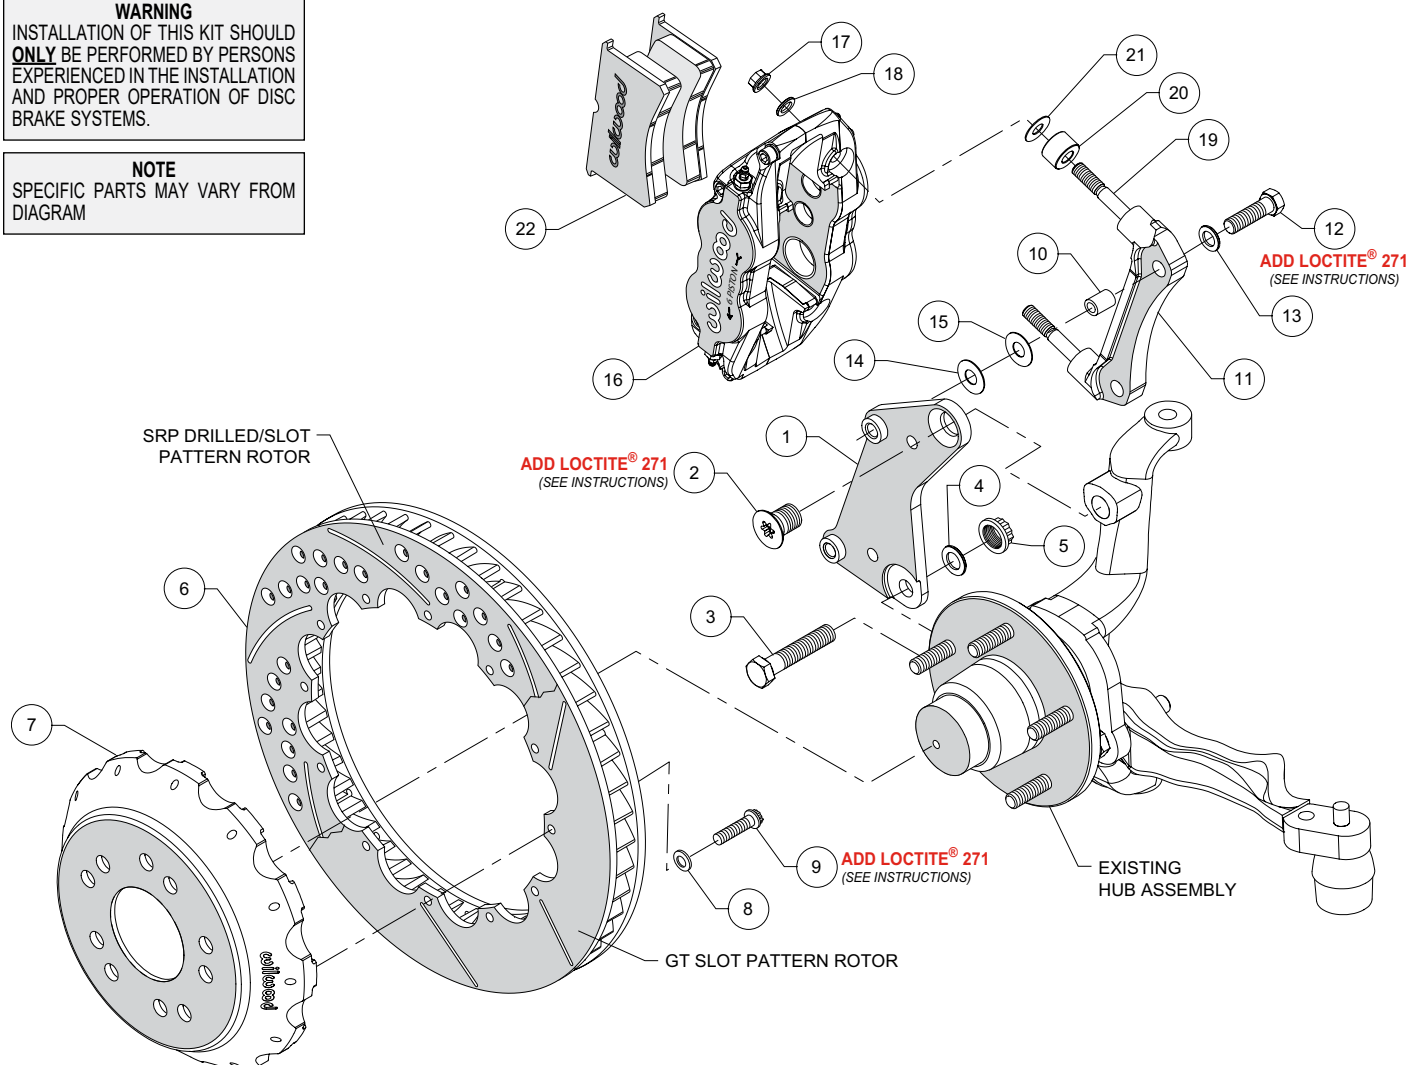

Figure 1. Typical Installation Configuration
- The radial mount caliper bracket assembly (11) should be installed first with clean, dry threads on the mounting bolts. Slide bolt sleeve (10) into the mounting holes of bracket (11). Install the bracket on the back side of the spindle/flat caliper mounting bracket (1) by sliding bolt (12) through washer (13), and through sleeve (10.) Initially place three shim washers (14) between the two brackets (1 and 11) (see Figure 1). The bracket must tighten squarely against the side of the spindle/caliper bracket. Inspect for interference from casting irregularities, machining ridges, burrs, etc. Later, after the caliper, pad, and rotor alignment has been checked, and any necessary shims have been put in place, the mount bolts should be coated with red *Loctite*® 271 and torqued to 47 ft-lbs.
- NOTE:** This kit contains distinct right and left hand calipers that must be mounted in a specific direction, as described below. Initially place .035" thick shim (21) and one spacer (20) on each stud (19) as shown in Figure 1. Mount the caliper (16) onto the radial mount bracket (11) using lock nuts (17) and washers (18), Figure 1. Ensure that the caliper is mounted so that the largest pistons are at the rotor exit end of the caliper, in relation to the direction of rotor rotation. Temporarily tighten the lock nuts and view the rotor through the top opening of the caliper. The rotor should be centered in the caliper. If not, adjust by adding or subtracting shims (14 and/or 15) between the spindle/caliper bracket (1) and the radial mount bracket (11). Always use the same amount of shims on each of the two mounting bolts.
- Remove the caliper center bridge pad retainer bolt, nut, and tube from the caliper. Slide the brake pads (22) into place. They should install easily without interference. Check that the outside radius of the brake pad is flush with the outside diameter of the rotor face. Add or subtract shims (21) between the caliper and mount bracket to gain the proper alignment. Reinstall the center bridge pad retainer tube, bolt, and locknut. The locknut should be snug without play in the bolt or tube. Be cautious not to over tighten.
- Once all clearances have been checked, remove the wheel, caliper, hat, and rotor from the spindle and hub. Secure the spindle/caliper mounting bracket (1) to the spindle with bolts (2 and 3) using red *Loctite*® 271 on the bolt threads. Torque bolt (2) to 140 ft-lb and bolt (3) to 77 ft-lb. Remove bolts (12) from the radial mount caliper bracket (11) and coat threads with red *Loctite*® 271 and reinstall. **NOTE:** Only removing one bolt at a time, then coating the threads and reinstalling will help keep all the shims in place. Torque bolts (12) to 47 ft-lb. Reinstall the hat and rotor assembly and again use lug nuts to hold it in place. Reinstall the caliper (16), torque the caliper nuts (17) to 28 ft-lb.